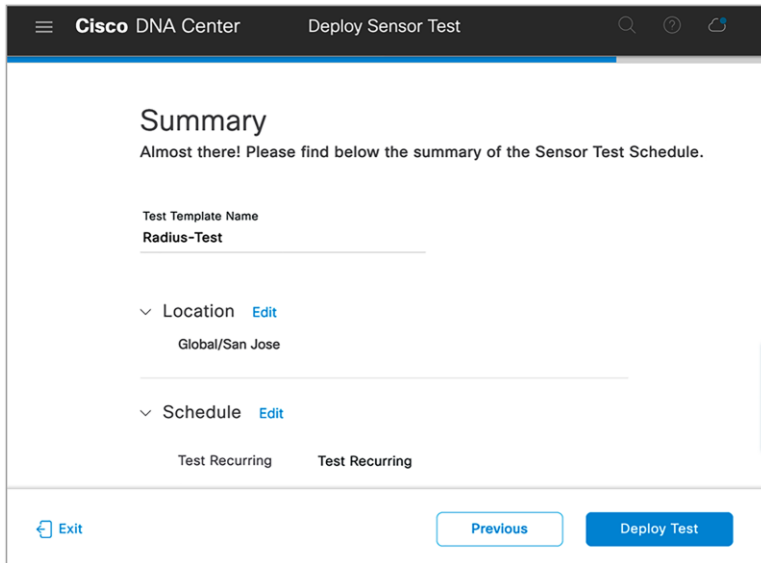

Figure 88.
24. On the Summary page, ensure that you've selected the correct Test Template Name, Location, and Schedule. Once confirmed, click the Deploy Test button (**Figure 88**).